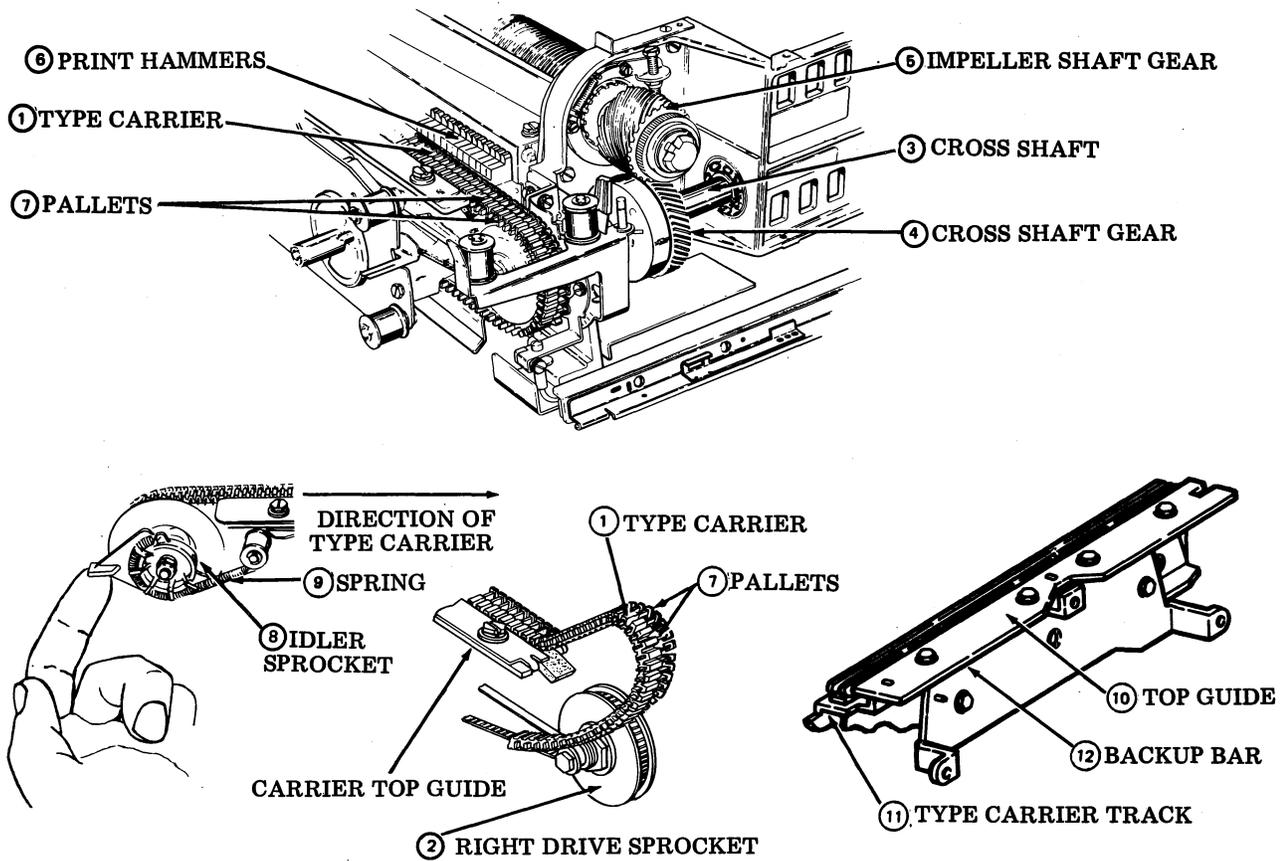

Fig. 44—Impeller to Type Carrier Phasing
K. Impeller to Type Carrier Phasing (Fig. 44)
3.35 The type carrier ①, is driven by a drive sprocket ② mounted on the cross shaft ③ at the right side of the printer. The cross shaft gear ④ coupled to the gear at the right end of the impeller shaft ⑤ permits phasing between the impeller shaft and the type carrier. This phasing lines up the print hammers ⑥ to impact the pallets ⑦ centrally.